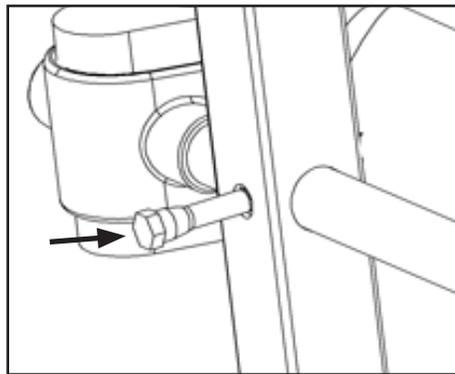

Figure 13
- Insert the Bolt (IA-1116) from the rear of the Main Shaft to secure the Rear Bar, and tighten the nut with the wrenches (F5-1088) provided (Figure 13).